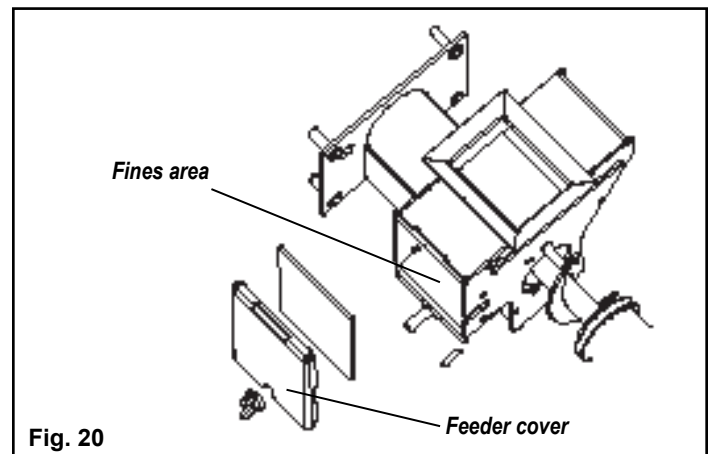

Fig. 20
NOTE: ALWAYS REMEMBER TO CLOSE THE CLEANOUT COVER AFTER CLEANING. Feeder Chamber (Fig. 20):
- Inspect and clean the inner chamber if necessary. Fig. 20.